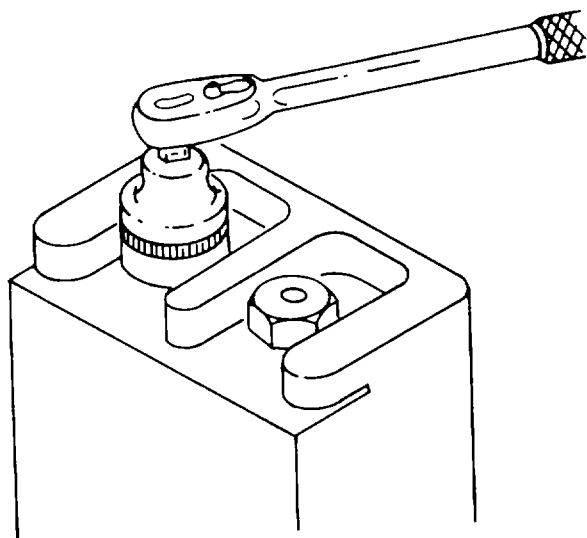

Figure 4-34. Use of Socket Wrench
(3) *Use of socket wrenches.* Where practical, a socket wrench is best for loosening or tightening nuts and bolts. Speed can be attained through the use of ratchets and speed handles. Length of the handle used is very important, as very little pressure is required to strip threads of twist off a small bolt using a long handle. Extension bars and universal joints enable a mechanic to get at nuts or bolts that would otherwise be out of reach or at a difficult angle. Figure 4-34 shows a typical use of a ratchet wrench. The procedure is outlined as follows: